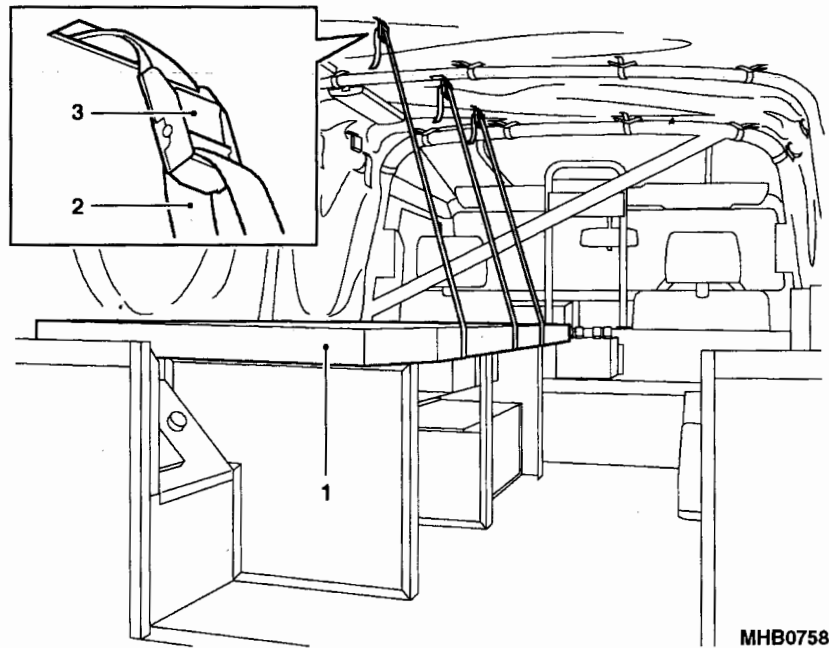

Fig 6 Bed restraining straps
7 The bed (Fig 6 (1)) doubles up as a map board when in the upright position. When the map board mode it is secured using straps (2) mounted in the roof. These same straps are used to restrain the person when using it as a bed.